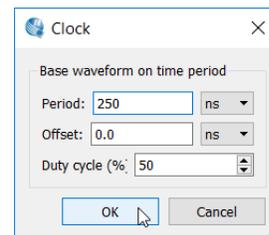

Figure 31. Set count to 125 ns.
12. Next, click a pop-up box will appear as shown in Figure 31. Fill -up transition occurrence to count every 125ns, click **OK**.